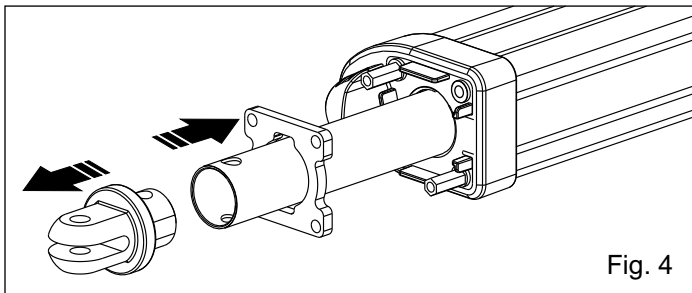

Fig. 4
4. Extract the front fork and insert the small pierced plate in the stem as in Fig. 4.